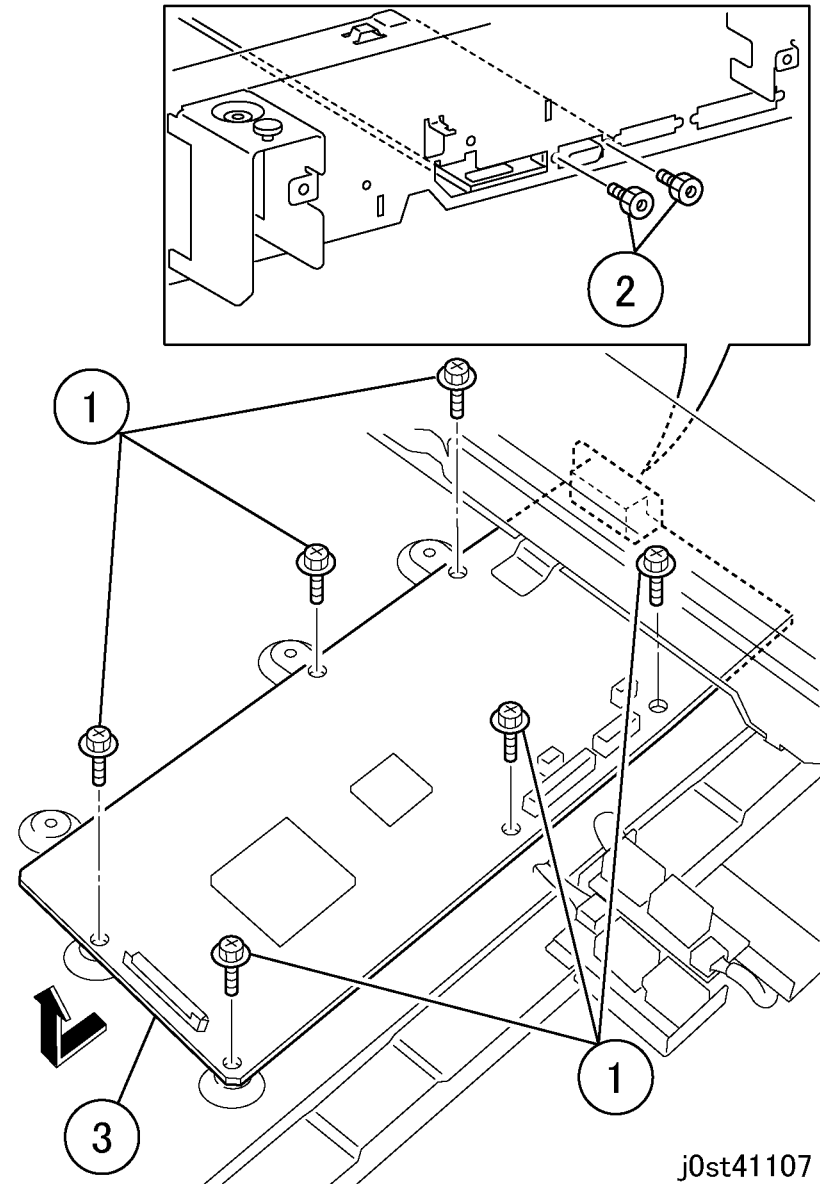

Figure 3 Removing the IIT/IPS PWB (j0st41107)
5. Remove the IIT/IPS PWB. (Figure 3)